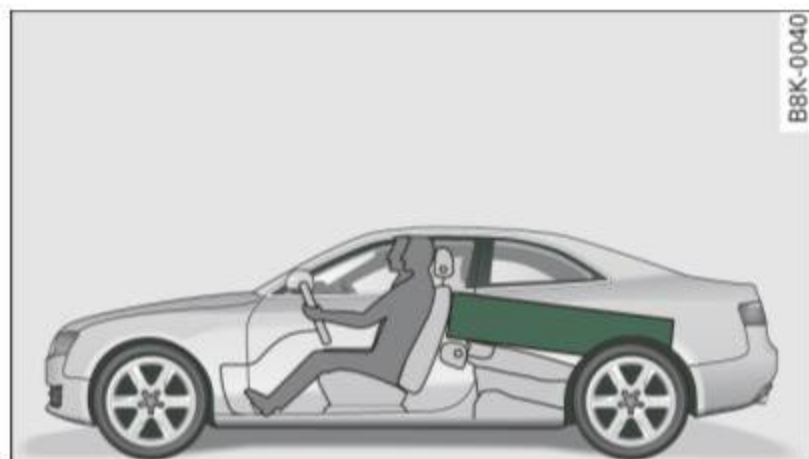

Fig. 78 Place heavy objects as far forward as possible.
- Place heavy objects as far forward as possible ⇒ fig. 78.